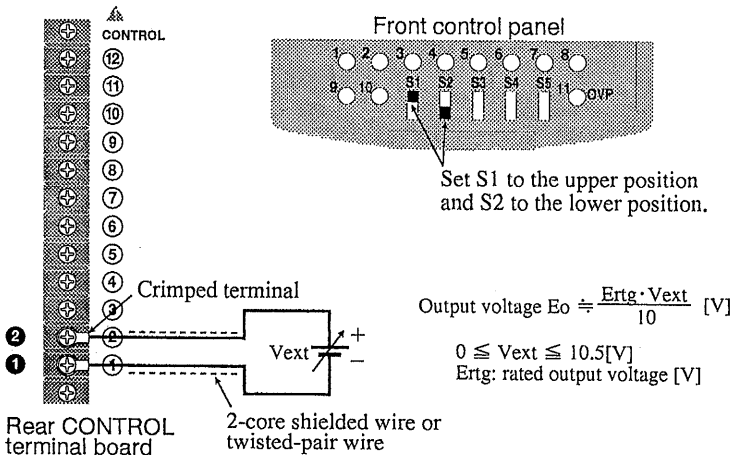

Fig. 3-4 Connection and setup for output voltage control using external voltage
- ④ Set the control switches S1 and S2 to the position shown in Fig. 3-4.
- ⑤ Connect the voltage source across the control terminals ① and ② as shown in Fig. 3-4.